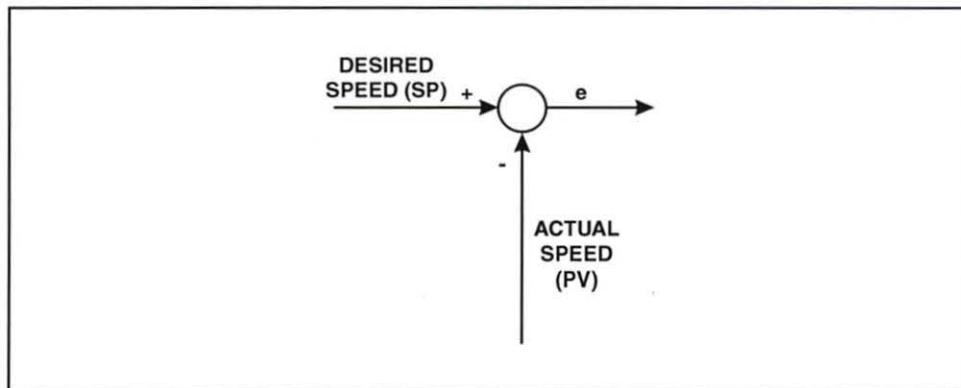

Figure 8. Circle Indicates Comparison of Desired Speed to Actual Speed
- B. Draw a circle to indicate the drivers comparison of the desired speed to the actual speed, as shown in figure 8. In addition, add the flow lines that represent the desired speed input signal and the actual speed input signal. The positive input is the desired speed. The negative input (feedback) is the actual speed of the car. The output of this comparison is the error signal.